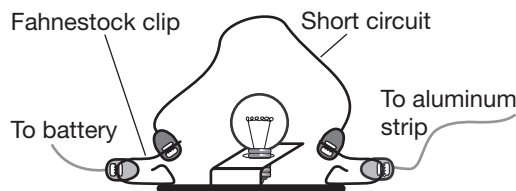

Figure 3.
8. Standing away from the balloon, create a short circuit by attaching each end of a fourth connector cord to the clips on the lamp receptacle (see Figure 3). The bulb should go out or become very dim.